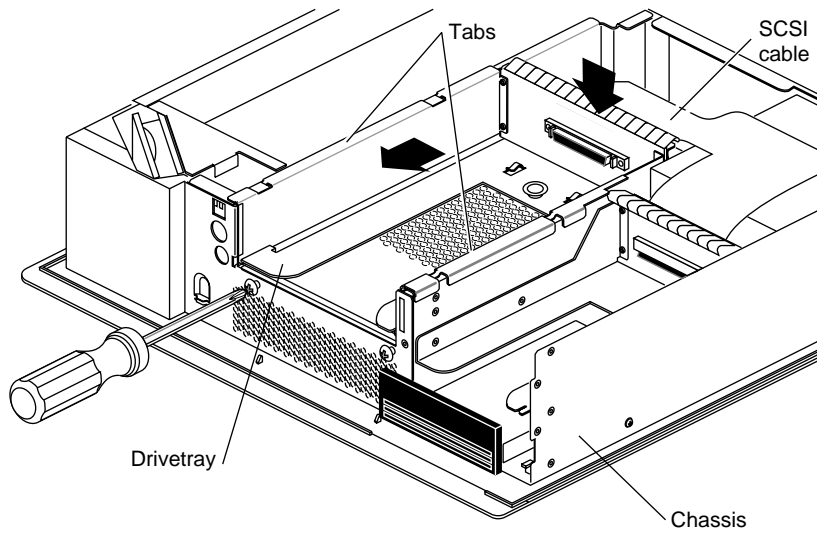

Figure 9-29 Replacing the 5-1/4" Drive Tray
8. Replace the 5-1/4" drive and tray, as shown in Figure 9-29.